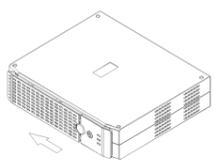

Fig. 1
FRONT PANEL fig. 1
- Press fastener to remove the battery cover plate on the front of the UPS (Fig. 1 & 2).
- Close the battery cover (Fig. 1).